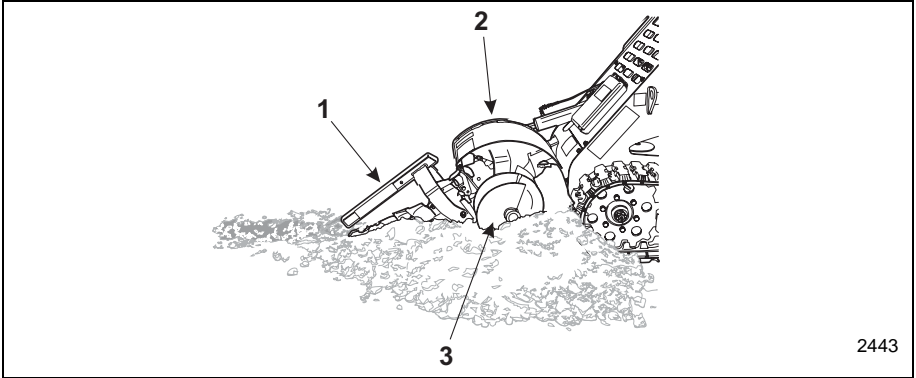

Figure 3-21 Trencher at Proper Depth
- When the trencher boom (Item 1, Figure 3-21) has reached the proper digging depth the rock shield (Item 2, Figure 3-21) and spoils auger (Item 3, Figure 3-21) will direct the dirt that has been removed from the trench away from the machine.